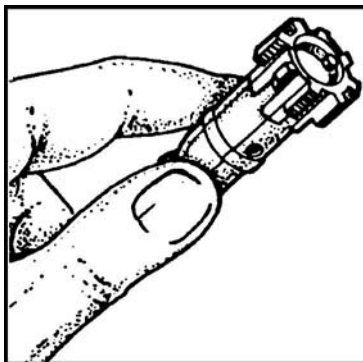

Figure 26. Holding the extractor pin in.
- c. Push the extractor pin in (Figure 26).